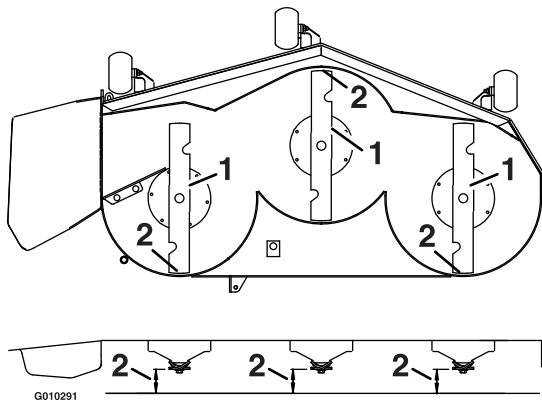

Figure 27
8. Carefully rotate the blades so they are facing front to rear (Figure 27).
9. Measure from the tip of the front blade to the flat surface and the tip of the rear blade to the flat surface (Figure 27). If the front blade tip is not "R" (see Block Height and Rake Table in **Deck Leveling**) lower than the rear blade tip, adjust the front deck hanger.